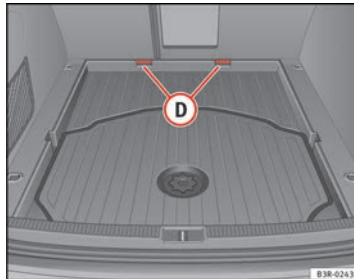

Fig. 123 Floor panel removed for increased luggage space
- Pull the complete floor panel towards the rear of the vehicle so it comes out of the retainers (D) ⇒ Fig. 123.